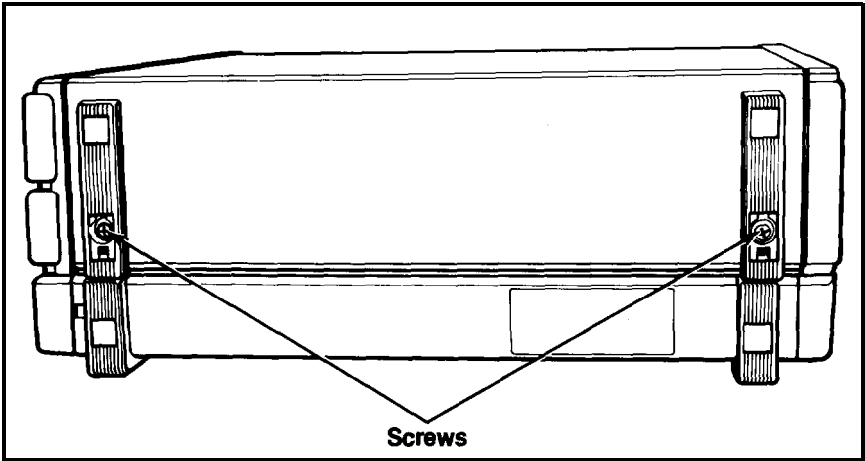

Figure 4-2. Side screws under plastic inserts
3. The top cover is secured by four screws, two on each side of the computer. Locate the small plastic inserts that cover the two screws on the left side, as shown in Figure 4-2. Remove the plastic inserts with a small screwdriver and set them aside. Then remove the screws on both sides of the computer. Put all the screws safely to one side.